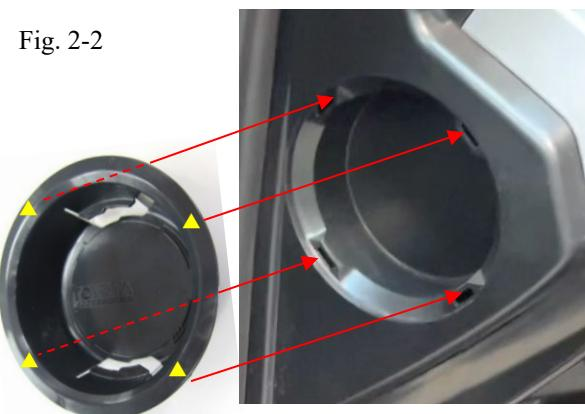

Fig. 2-2
- Install the Organizer to the vehicle. With the  mark on the back facing upward, fix the four hooks (Fig.2-2)